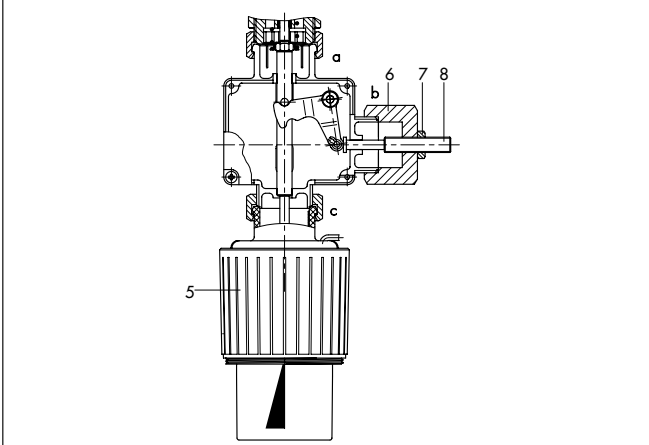

Fig. 4 · Double adapter Do3 K, Type 2430 K Thermostat and manual adjuster
Double adapter Do3 K with Manual adjuster (Fig. 4) · To manually close the valve or to limit its travel · Connection "c" for thermostat, connection "b" for manual adjuster.
The **double adapter** is mounted to the temperature regulator between the control valve (1) and control thermostat (5). Additional control thermostats can be mounted to connections "b" and "c" (Fig. 4). The manual adjuster is attached at the connection "b".
The travel of the mounted unit acts directly (connection "c") or via the lever (3) (connection "b") on the coupling pin (4). This pin moves the plug stem (2) and the plug. The plug stem is coupled to the unit which has the largest travel. The manual adjuster (Fig. 4) limits the travel.